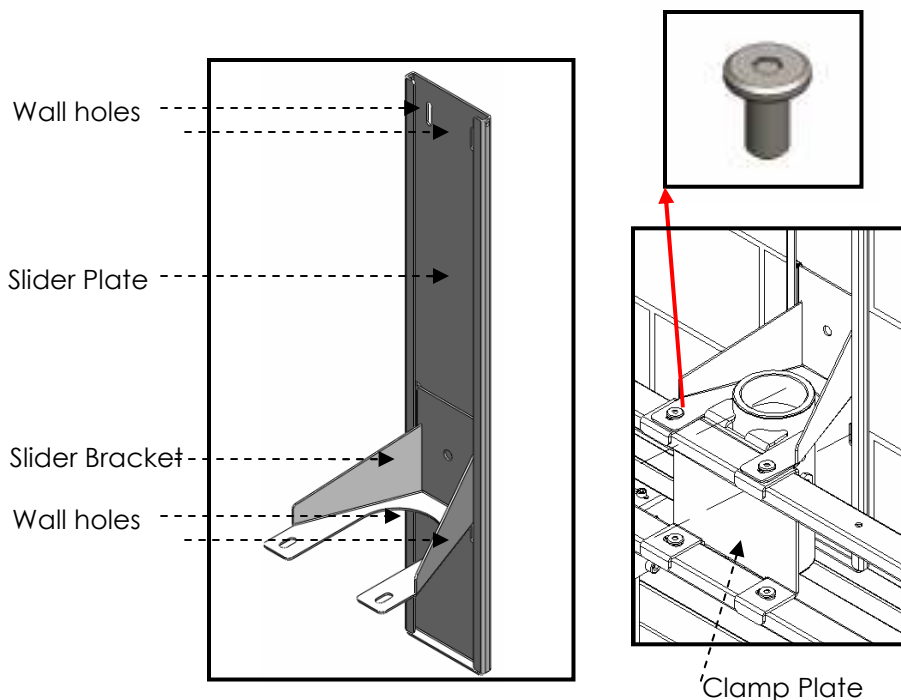
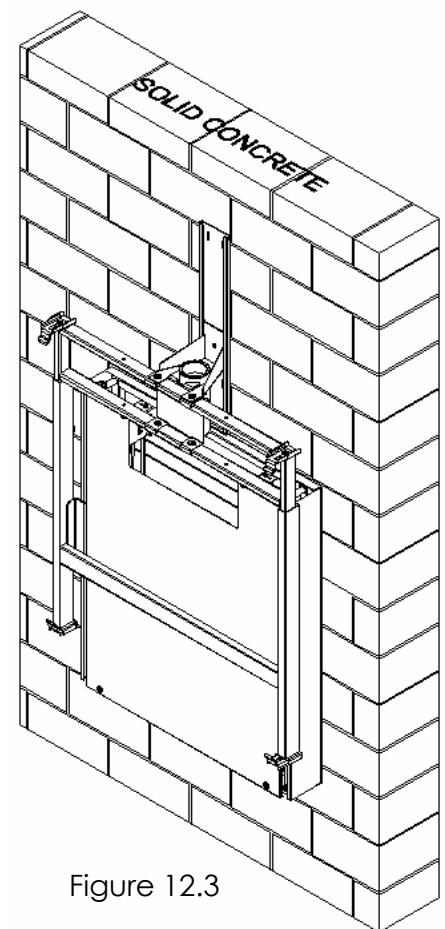

Figure 12.2
Figure 12.3
- 2) Attach the **Slider Plate** and **Slider Bracket** (see figure 12.2) onto the Clamp Plate (see figure 12.3). Unscrew and reattach the Flat Head Screws to do so.